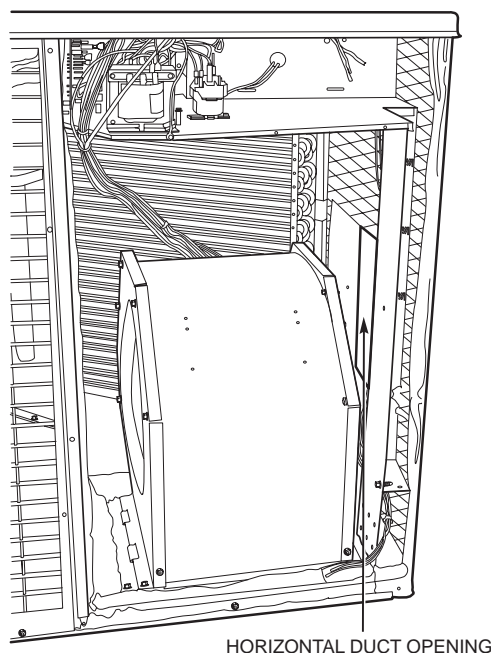

Fig. 23 — Housing Placed for Vertical Airflow
13. Orient blower housing for vertical airflow (blower motor adjacent to horizontal duct opening). See Fig. 23. Reconnect the plug assemblies. Slide blower housing into vertical opening making sure the flanges on the blower side plates engage the tabs in the unit basepan.